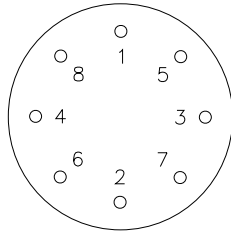

Figure 4-5
- D. Tighten bolts in sequential order in 20% (40 ft. lbs.) increments until final torque of 200 ft. lbs. is reached. Refer to figure 4-5 and 4-6 for bolt torque order.
3. Tighten bolts in sequential order in 20% (40 ft. lbs.) increments until final torque of 200 ft. lbs. is reached. Refer to figure 4-5 and 4-6 for bolt torque order.
- 3. Tighten bolts in sequential order in 20% (40 ft. lbs.) increments until final torque of 200 ft. lbs. is reached. Refer to figure 4-5 and 4-6 for bolt torque order.